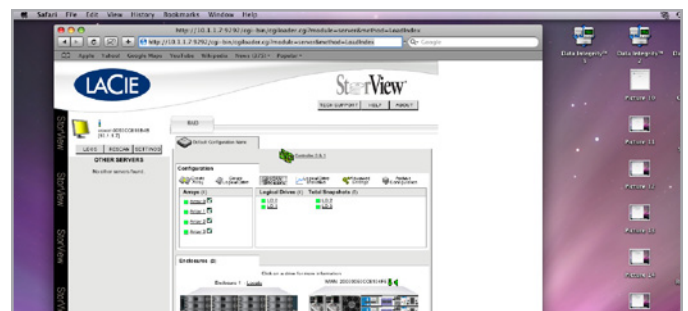

Fig. 71 - Mac Screen: Logged In
7. You are now connected to the embedded Storeview GUI (Fig. 71).